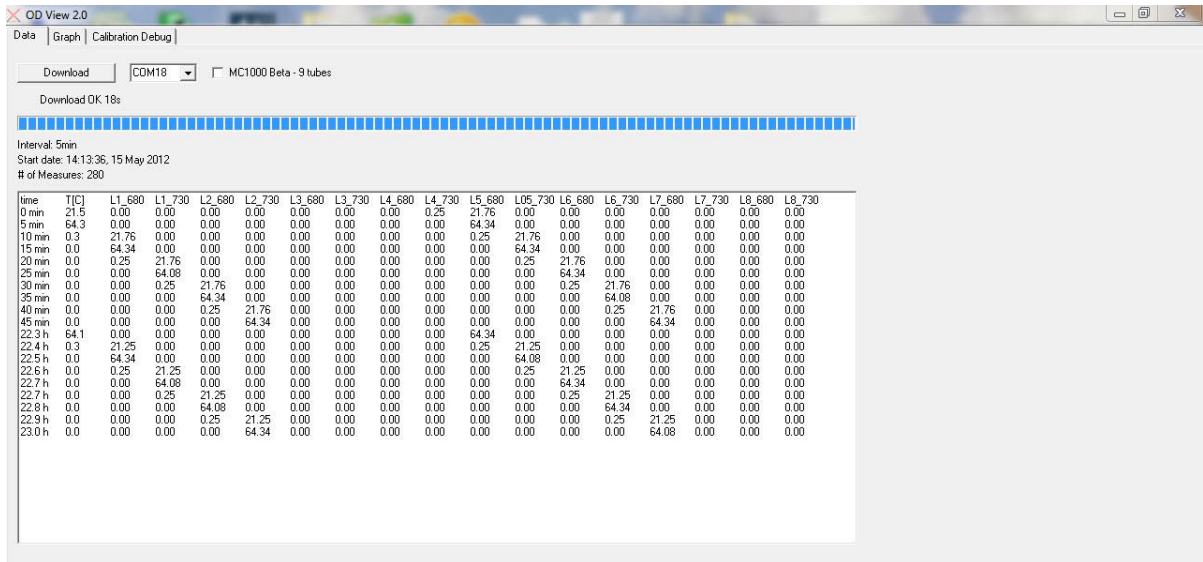

Fig. 22 OD and Temperature downloaded data window.
36. Click “detect” button for the software to connect with the Multi-Cultivator control unit. Once the connection has been established click download button that appears. The stored data from the MC 1000-OD control unit will be downloaded and the following screen will appear as shown in Fig. 22.